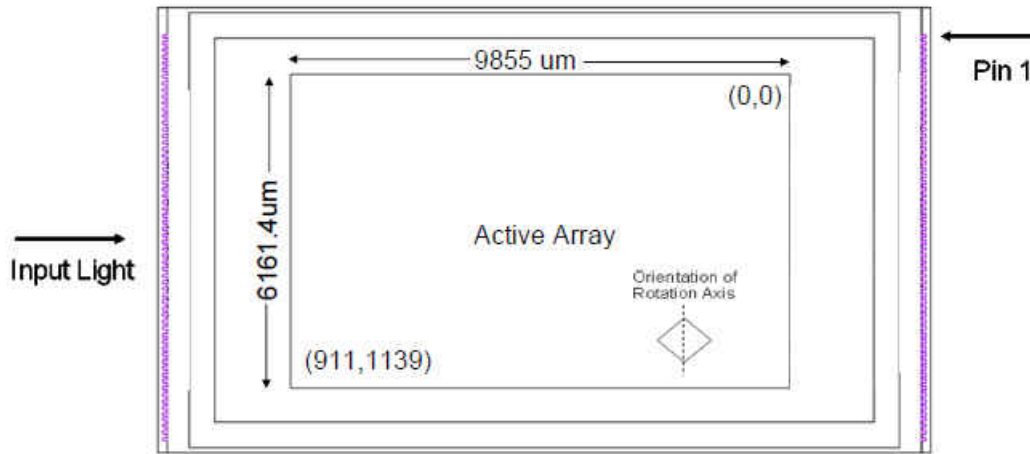

图 7-5. DLP4500 Micromirror Active Area
- (3) See Micromirror Active Area in 图 7-5.